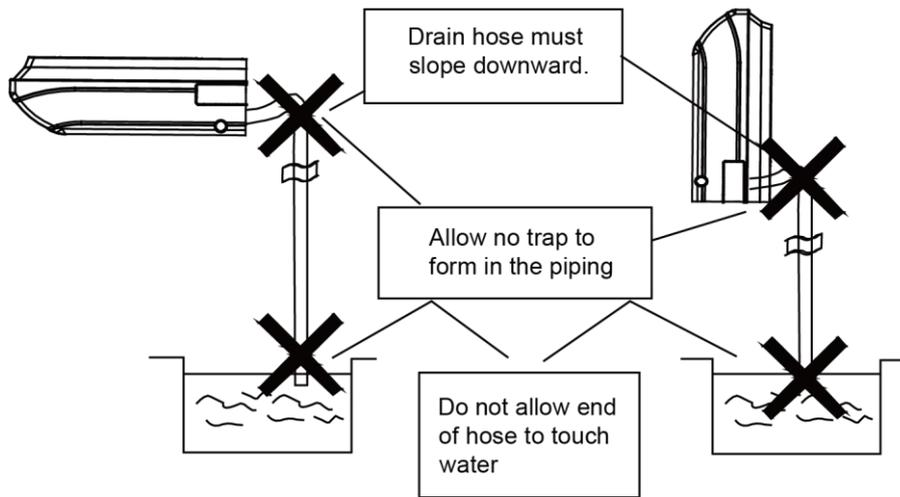

Figure 3-1-32
- (4) Connect the drain hose.(Figure 3-1-32)